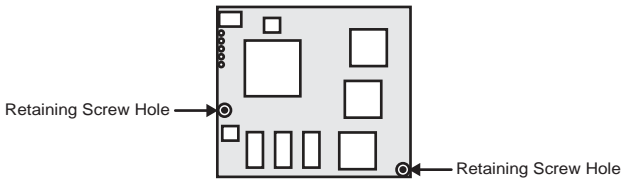

Figure 4 Squeeze & Tease WARP MD Card
3. Align the **Squeeze & Tease WARP MD Card** so that the **3** connectors on the bottom of the card line up with the connectors in the **Squeeze & Tease WARP MD Card Slot**. The **Retaining Screw Holes** on either side of the card will line up with the mounts on the board (**Figure 4**).